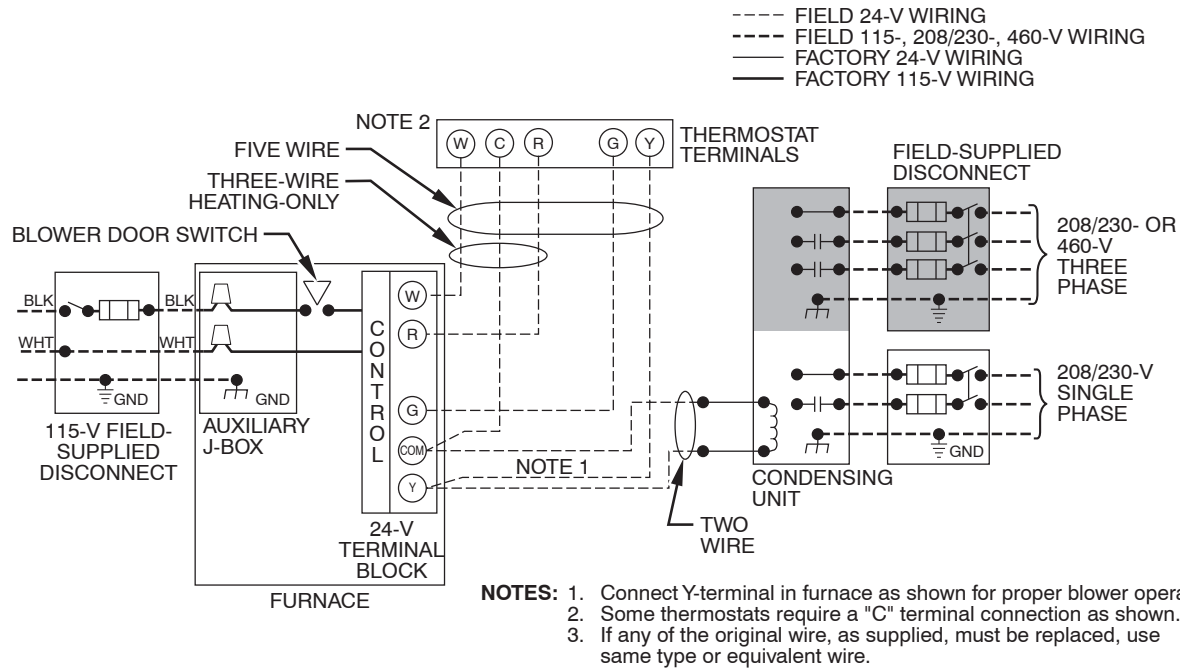
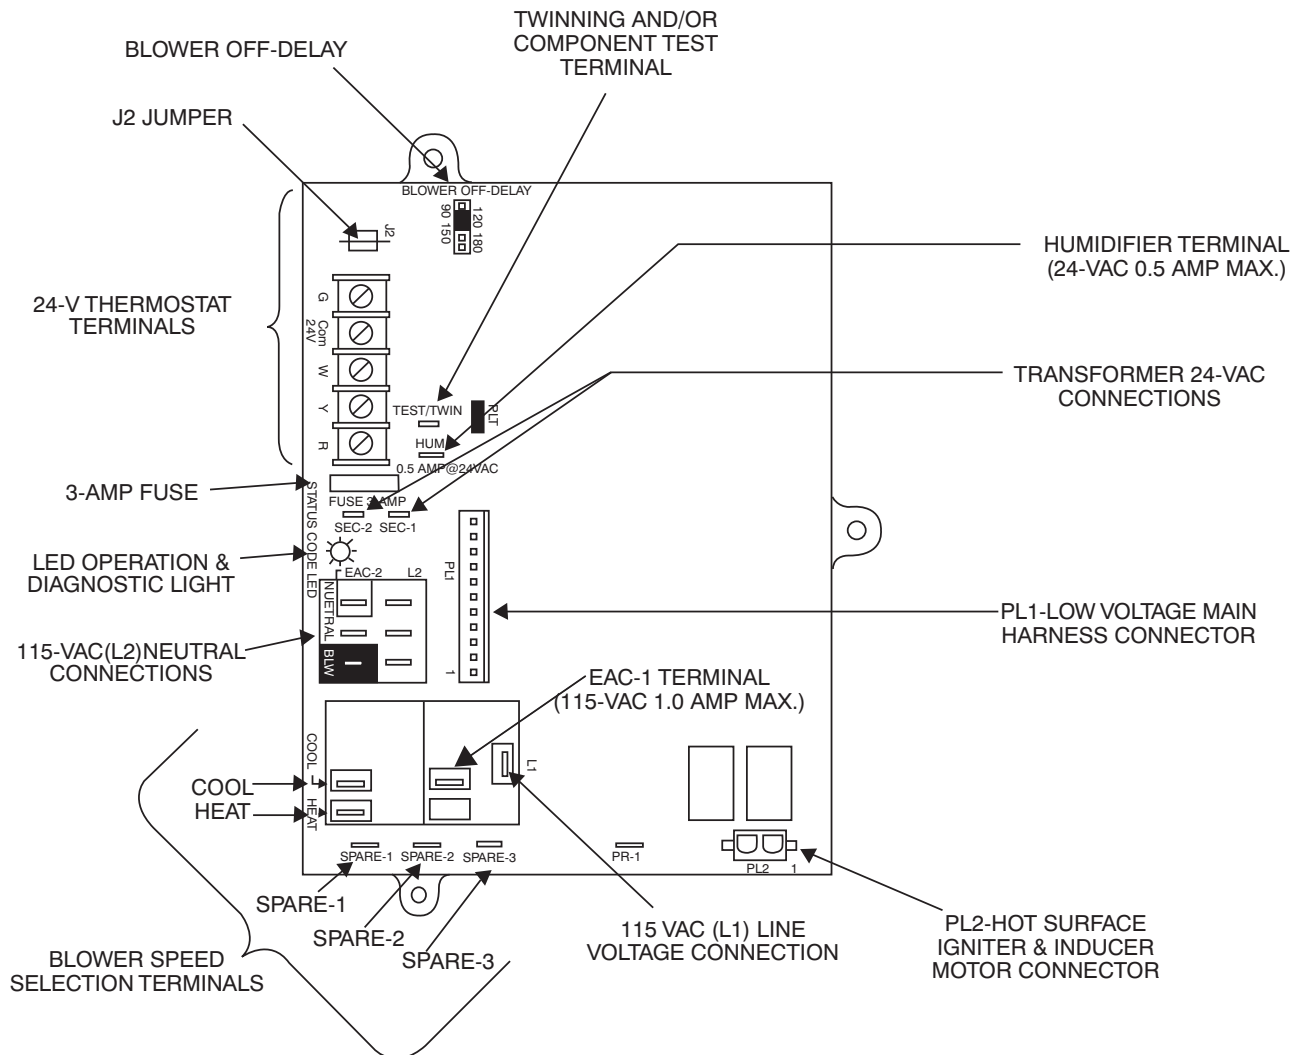

Fig. 38 – Typical Single-Stage Wiring Diagram
Fig. 39 – Example of Single Stage Furnace Control
- Connect power cord power and neutral leads to furnace power leads as shown in Fig. 38.
- Connect field power and neutral leads to furnace power leads, as shown in Fig. 38.
The 24-v circuit contains an automotive-type, 3-amp. fuse located on the control. Any direct shorts during installation, service, or maintenance could cause this fuse to blow. If fuse replacement is required, use ONLY a 3-amp. fuse of identical size. See Fig. 39.
Make field 24-v connections at the 24-v terminal strip. See Fig. 39. Connect terminal Y as shown in Fig. 38 for proper cooling